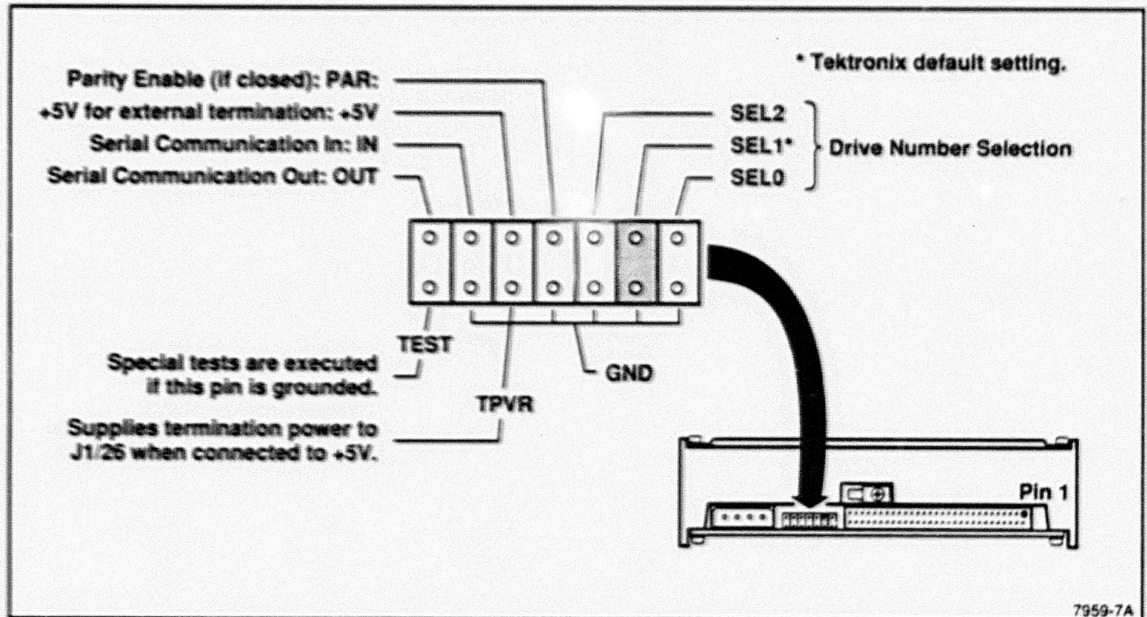
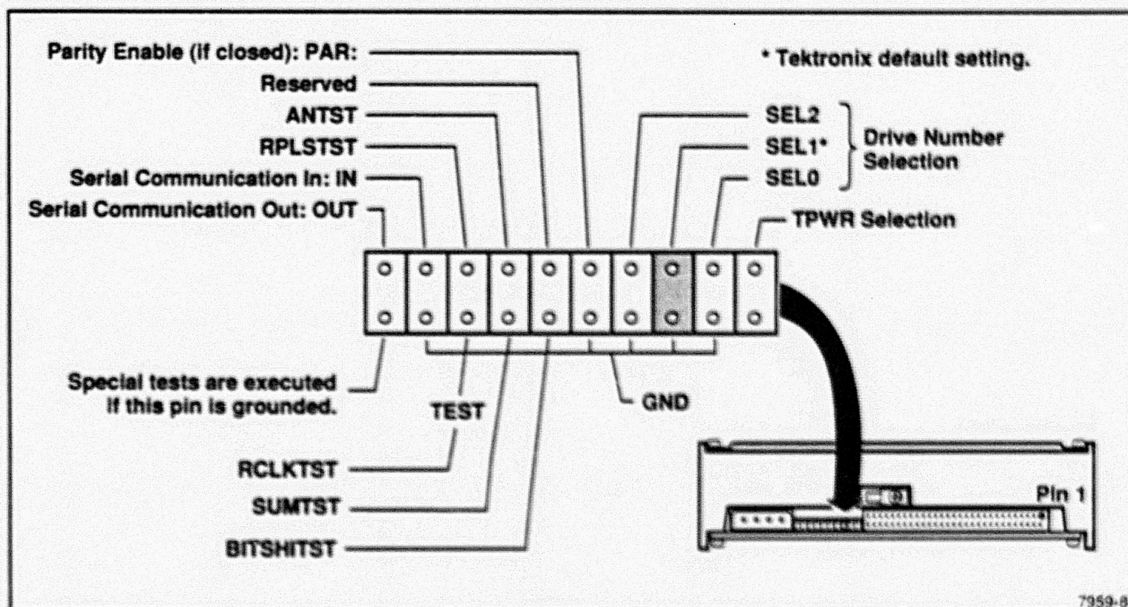

Figure 14. 1/4" Streaming Tape (119-3650-xx) Jumper Settings.
Figure 15. 1/4" Streaming Tape (119-4120-xx) Jumper Settings.
1. Verify that the address jumpers on the streamer tape drive are set to SCSI address 02. See Figure 14 or Figure 15 in the discussion "Device Strapping and Addressing" later in this manual.